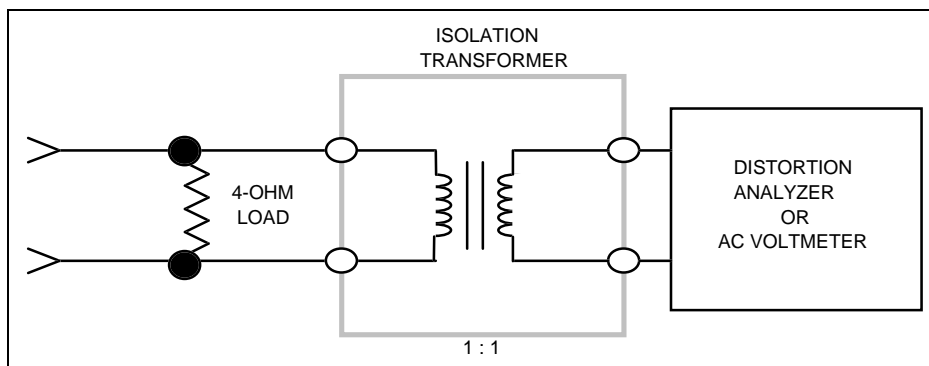

Figure 3 - Audio Isolation Transformer
** See Figure 3. This is not needed if instrument input is unbalanced with respect to ground.
2. Connect a 4-ohm, 25-watt resistor in place of the speaker. Connect the isolation transformer input across the resistor. Connect the isolation transformer output to the Distortion Analyzer (see Figure 3).